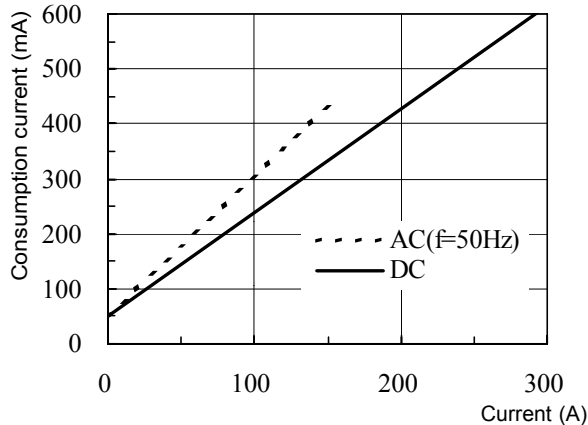

Fig.1
- (1) Check that the system is safe, and that the preparations described in the preceding section have been carried out.
- (2) Pull the sensor slider, so that the clamp opens.
- (3) Align the sensor so that the current direction indication corresponds to the direction of current flow through the conductor to be measured, and clamp so that the conductor is in the center of the sensor aperture.
- (4) Press the slider on the sensor head until the "UNLOCK" indication disappears, and hold it until LOCK appears, and check that the opening lever is firmly locked and the clamp securely closed.
- (5) It is now possible to monitor the current waveform. The output rate of the 3274 is 0.01 V/A. The current sensitivity can be derived from the voltage sensitivity of the waveform measurement instrument. For example, if the voltage sensitivity is 10 mV/division, the current sensitivity is 1 A/division.
- The current consumption of clamp-on probes depends on the current to be measured. Confirm that the total current consumption of the clamp-on probes does not exceed the rated output current of the 3272. See Figure 1.